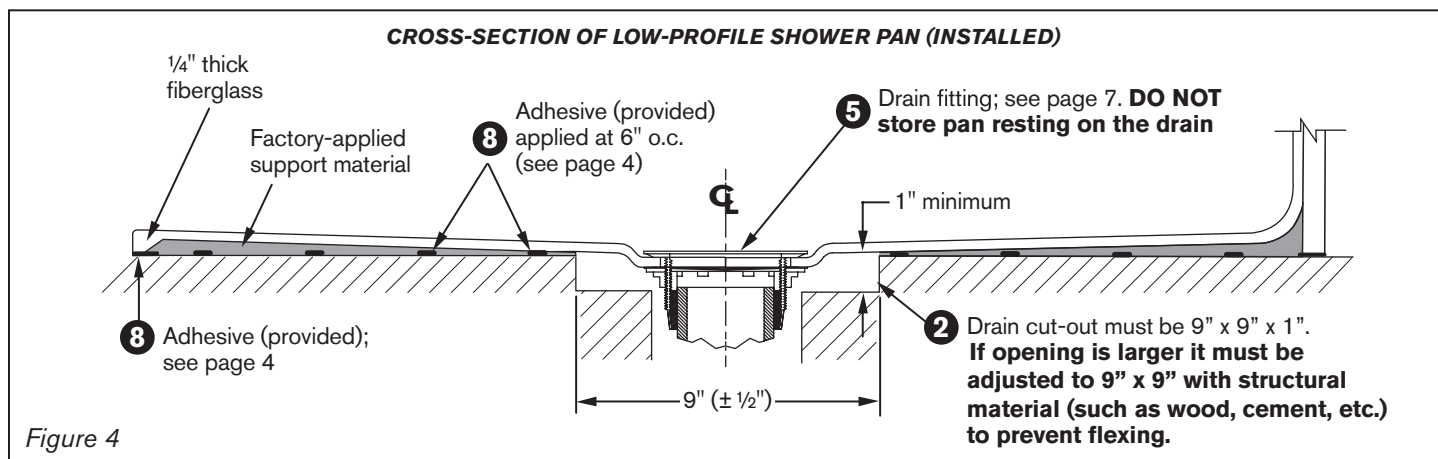

Figure 4
- 2 The shower drain pipe must be centered in the 9" x 9" x 1" opening in the floor. (see Figure 4 above). If the opening is larger than the specified cut-out, it must be adjusted with structural material (such as wood, cement, etc.) to prevent flexing.